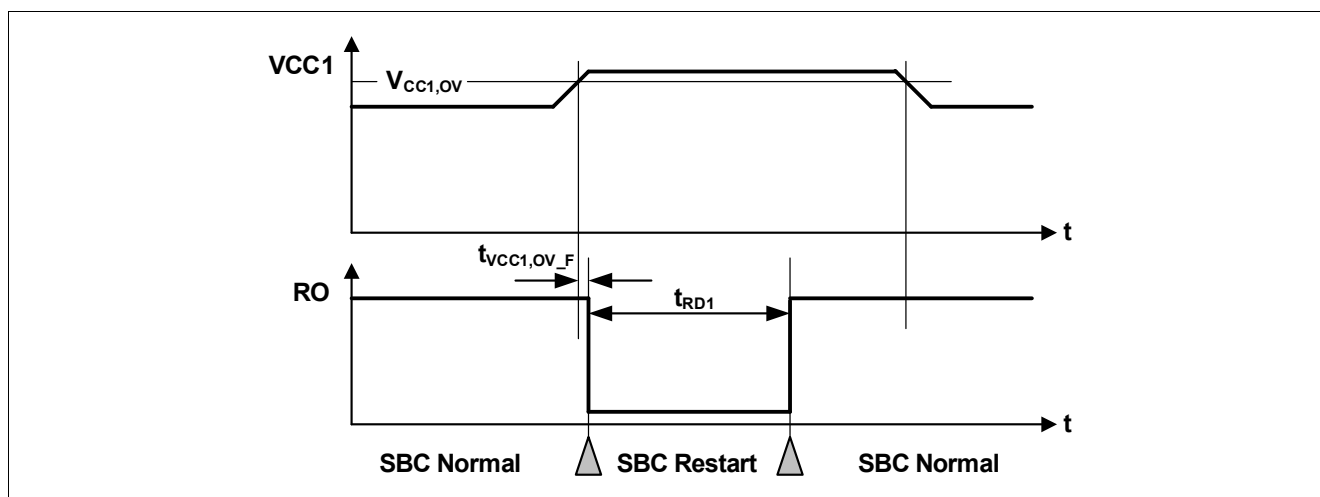

Figure 52 VCC1 Overvoltage Timing Diagram
- If the bit **VCC1\_OV\_RST** is set and **CFGP** = '1', then SBC Restart Mode is entered. The FOx outputs are activated. After the reset delay time ( $t_{RD1}$ ), the SBC Restart Mode is left and SBC Normal Mode is resumed even if the VCC1 overvoltage event is still present (see also **Figure 52**). The **VCC1\_OV\_RST** bit is cleared automatically;